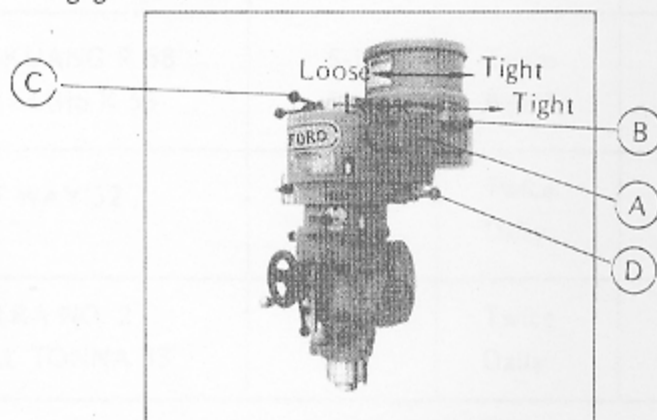

Figure 39
Adjustment and change of Belt Pulley (Figure 39):
(1) Replacement of V-Belt and Timing Belt of 1½ TM Miller:
- b. Take off the side cover of belt wheel housing (Vide Figure 39(A), P.41).